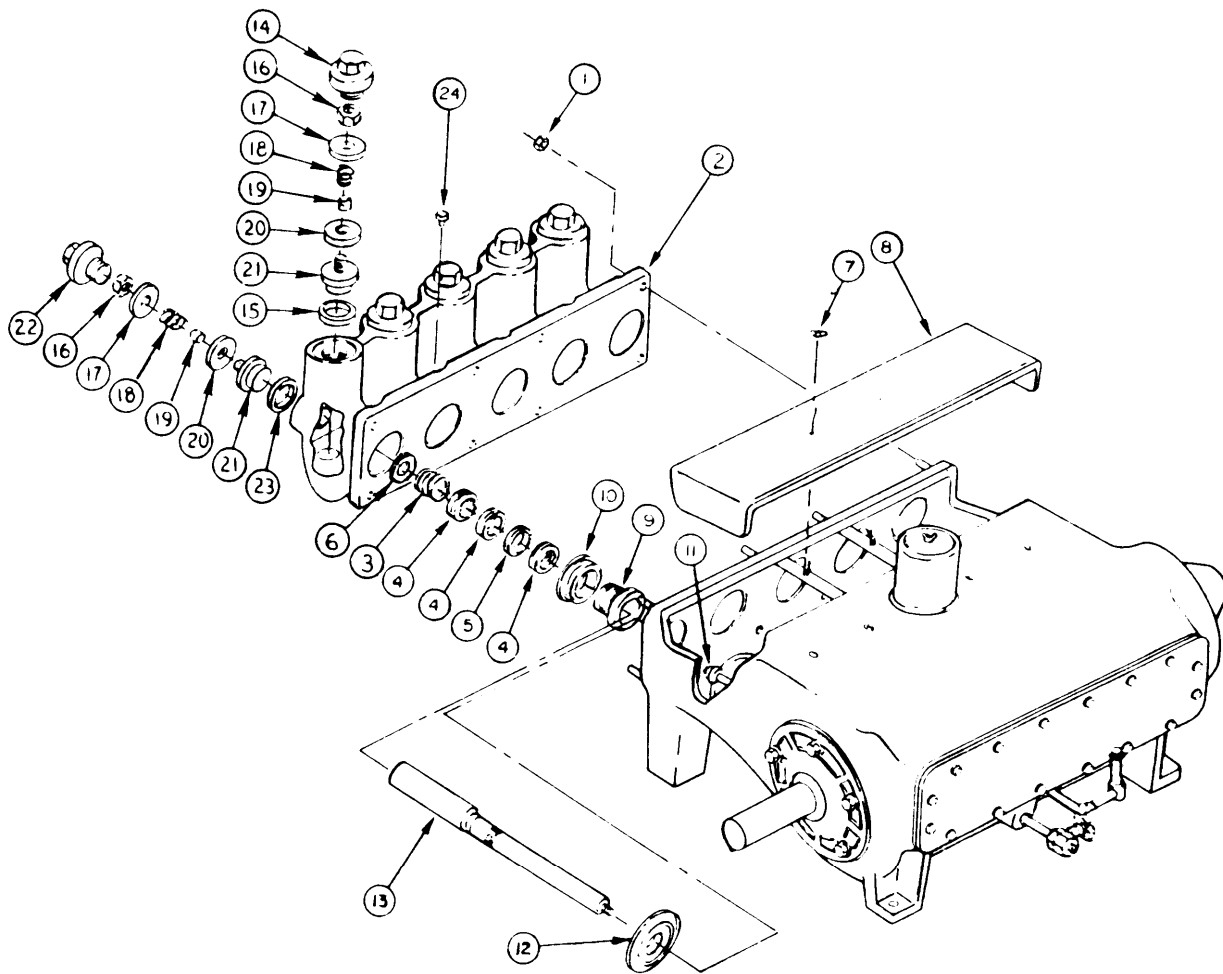

Figure 4-2. R. O. Pump Suction/Discharge Assembly
4-3. R.O. PUMP SUCTION/DISCHARGE ASSEMBLY. (Figure 4-2)
- (8) Remove one packing ring (4), lantern ring (5), two more packing rings (4), spring (3), and one throat bushing (6) from each cylinder bore on suction/discharge assembly. Discard packing rings (4).
c. Dissassembly for Repair. (Figure 4-2)
- (1) Remove five valve covers (14) and five valve cover gaskets (15) from suction/discharge assembly (2). Discard valve cover gaskets (15).
- (2) Remove five nuts (16), five retainers (17), five springs (18), five sleeves (19), and five discs (20) from five seats (21).
- (3) With the valve seat puller, remove five valve seats (21) from suction/discharge assembly (2).
- (4) Remove five cylinder heads (22) and five cylinder head gaskets (23) from suction/discharge assembly (2). Discard cylinder head gaskets (23).
- (5) Repeat steps (2) and (3) to remove five suction valve assemblies. Parts can be removed from the suction/discharge assembly (2) through the cylinder head opening.
- (6) Remove five plugs (24) from suction/discharge assembly (2).
- (1) Replace damaged nuts, bolts, screws, washers, and wingnuts.
- (2) Replace damaged valve covers and cylinder heads.
- (3) Replace all packing rings, gaskets, O-rings, and rubber baffle discs.
- (4) Replace damaged or unserviceable lantern rings, throat bushings, barrel cover, power frame adapters, gland nuts, plungers, retainers, springs, valve discs, valve seats, and plugs.
g. Reassembly. (Figure 4-2)
- (1) Clean tapered area of valve seat.
- (2) Place suction valve seat (21) into position in suction/discharge assembly (2). Cover with an old valve disc (20).